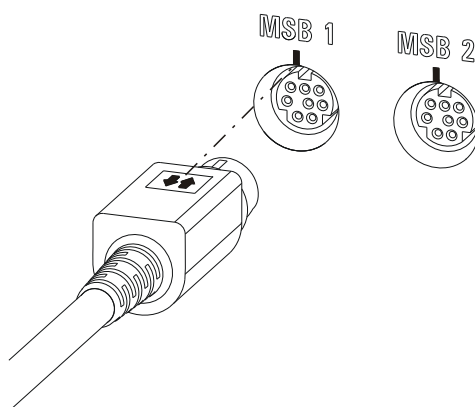

Figure 15 MSB connector
- When making the connection, take care to ensure that the flat part of the MSB plug marked with arrows is pointing in the direction of the marking on the MSB connector (see figure 15, page 22).